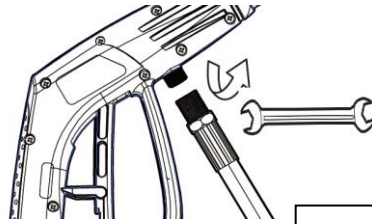

Fig.7
7. COLLECT THE PRESSURE HOSE WITH THE WASHER (Fig.7)